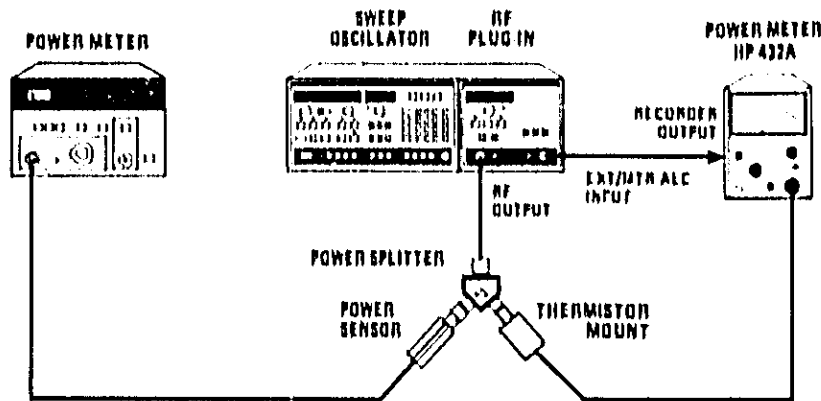

Figure 5-33. Power Meter Leveling Calibration
1. Connect equipment as shown in Figure 5-33. On the 8350A, press INSTR PRESET CW and select a frequency at midband. Set the RF power level to -2 dBm, as indicated on the 83590A POWER display. Allow the equipment to warm up for 1 hour.